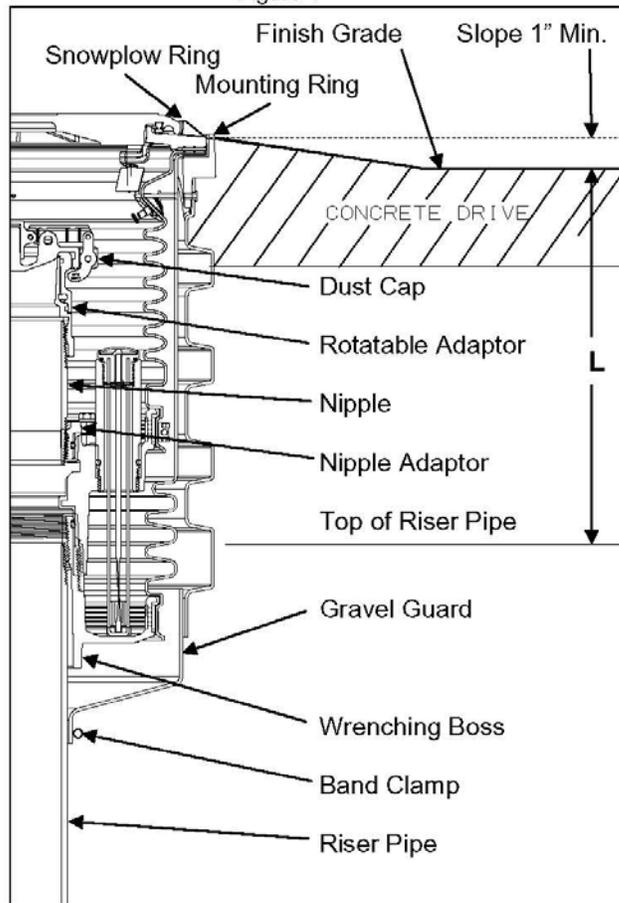

Figure 2
**Step 5:** (See Figure 2)
**Step 6:** (See Figures 2 & 3)
**Step 10:** (See Figure 2)
Install gravel guard at final height as shown in Figure 2 and tighten band clamp to 30 in-lbs. Where applicable, per California SB-989, all metal must be protected from direct contact with the elements. Coat stainless steel band clamp with the following approved coatings: OPW SL-1100, 3M Underseal 08883 or Polyguard Mastic CA-9.
**Step 11:** (See Figures 2 & 5)